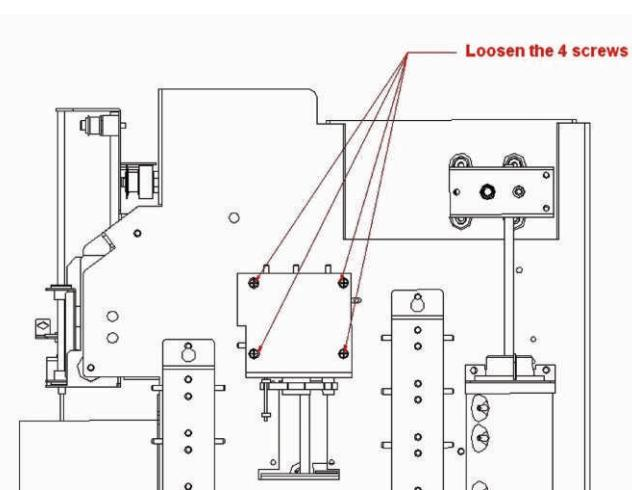

Fig.6-5
1. Power off the instrument and disconnect the tubings on top of the syringes. Watch out for liquid spills. Loosen the 4 screws which fix the reagent dispensing syringe assembly and remove the assembly carefully from the instrument, as shown in fig. 6-5: